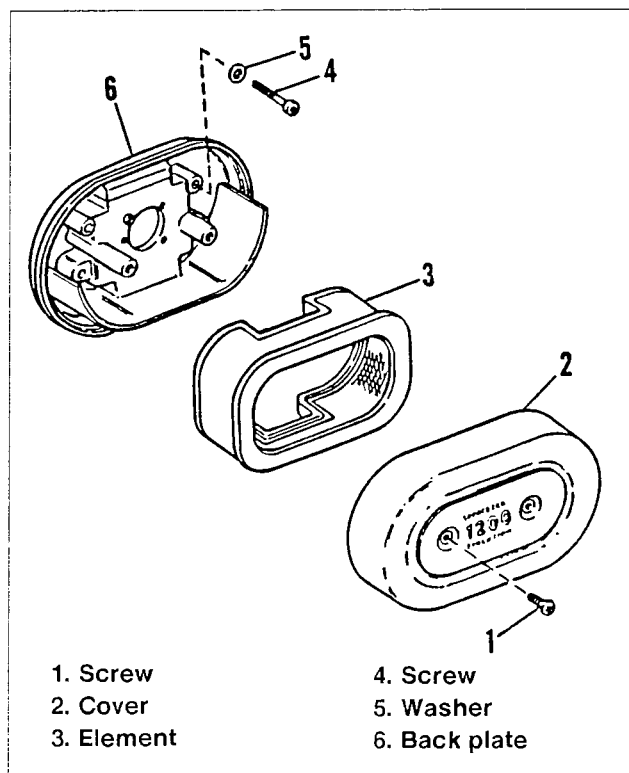
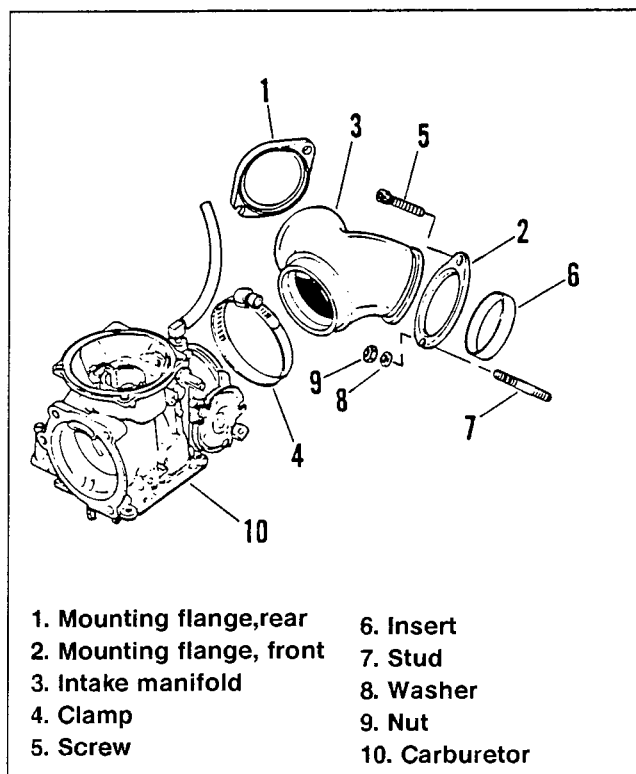

Figure 2 Air Cleaner Assembly
Figure 3. Carburetor Assembly
4. See Figure 2. Remove two screws (1), air cleaner cover (2) and air cleaner element (3)
5. Remove two large Allen screws (4) and washers (5) that attach air cleaner backing plate to cylinder head.
6. See Figure 3. Loosen hose clamp (4) securing carburetor to manifold.
8. Swing carburetor and backing plate assembly free of manifold. Leave enricher and control cables attached. Remove and discard hose clamp (4).
10. Remove manifold flange nuts (9) washers (8) from studs (7) in cylinder head.
11. Using 1/4 in. Bondhus driver, Snap-on Part No. FABL8, remove manifold socket head screws (5) securing manifold flanges to cylinder heads.
12. Remove manifold (3).
13. Pry out inserts (6) that are inserted inside manifold and remove manifold flanges (1) and (2).
5. Lubricate only the inside surface of seal ring (9) that will be in contact with the carburetor. Also apply a light coat of lubricant to the spigot of the carburetor body. Push carburetor body into seal ring (9). Carburetor and air cleaner back plate are still assembled.
7. See Figure 2. Install Allen screws (4) through air cleaner backing plate (6) and thread into tapped holes in cylinder head. Tighten to 10-12 ft. lbs torque.
12. See Figure 2. Place element (3) in air cleaner backing plate (6) and position cover (2) over element. Secure with screws (1) and tighten to 3-5 ft. lbs torque.